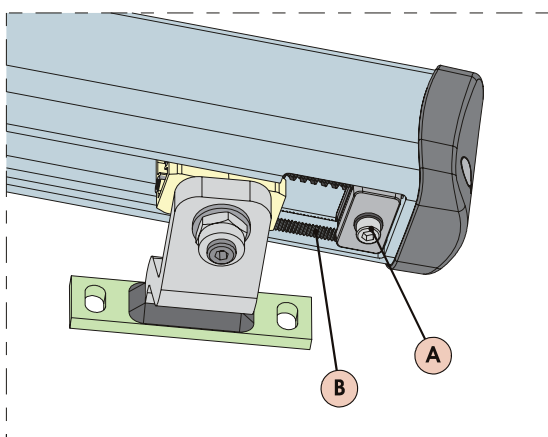

Fig. 19
- 3) Loosen the fastening screw, Fig.19 ref.A. Do not remove the screw.
IMPORTANT: The mechanical stop works coupled to a toothed sector, Fig. 19 ref. B. If there are any troubles during the movement, make sure that the coupling is free. DO NOT FORCE.